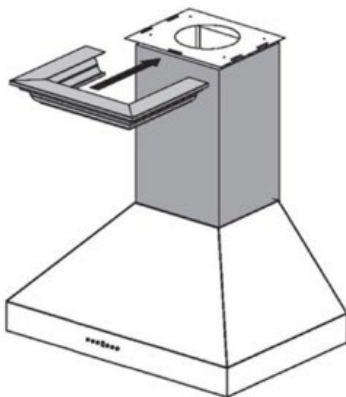

Figure 10.
12. Slide the decorative crown onto the chimney mounting bracket and secure into place. *Figure 10.*